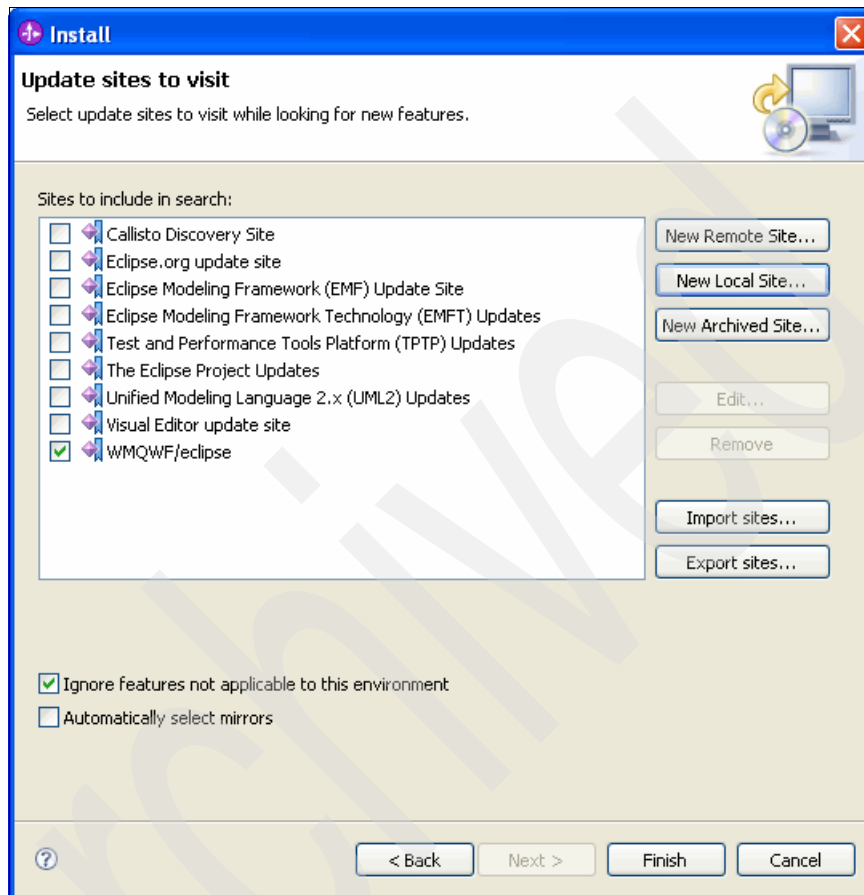

Figure 8-38 Selecting the newly created site
- c. Back in the Install – Update sites to visit window (Figure 8-38), make sure the newly created site is selected and click **Finish**.